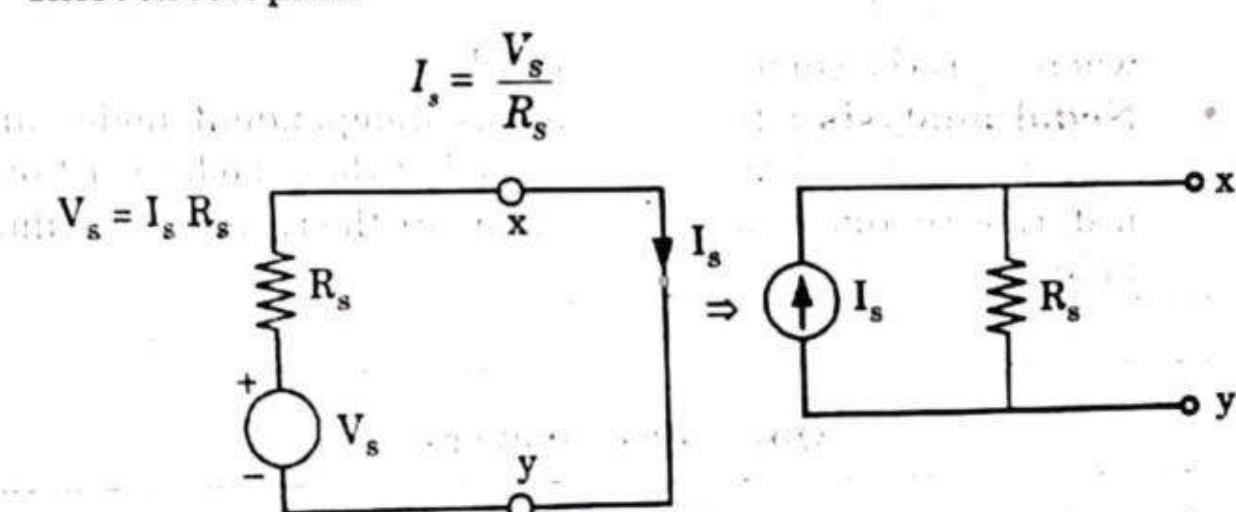

Fig. 1.4.1.
1. Let us consider a practical voltage source V_s with a source or internal resistance R_s , as shown in Fig. 1.4.1.